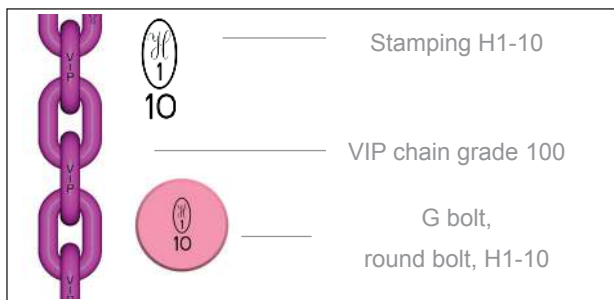

Fig. 1: VIP chain with bolt and stamping
- Grade of the component (fig. 1)
Use only the round VIP-G bolt (fig. 1) for VIP components